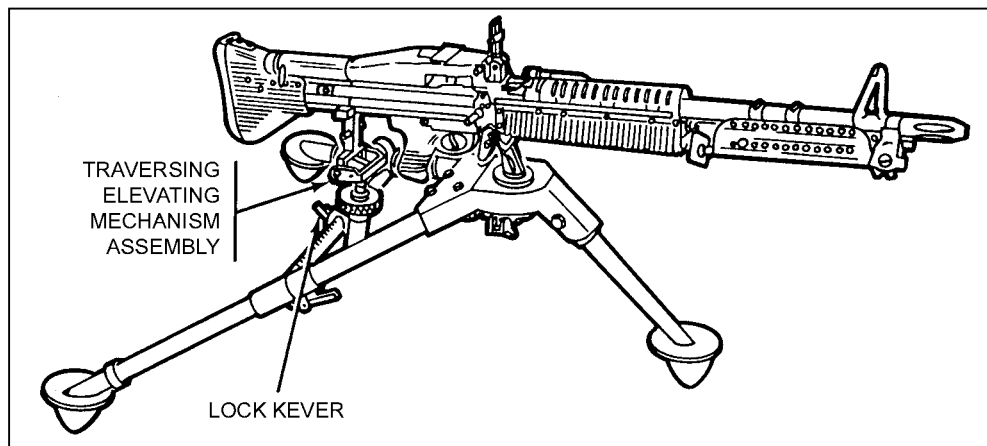

Figure 2-21. Attachment of the T&E mechanism.
(4) To attach the T&E mechanism to the weapon mounted on the tripod (Figure 2-21), the gunner centers the elevating and traversing handwheels. To do this, he turns the traversing handwheel toward his body as far as it will go, then turns it away two complete revolutions. He checks the traversing handwheel scale to ensure the "0" on the scale is aligned with the "0" index line before and after the two revolutions. At night, the